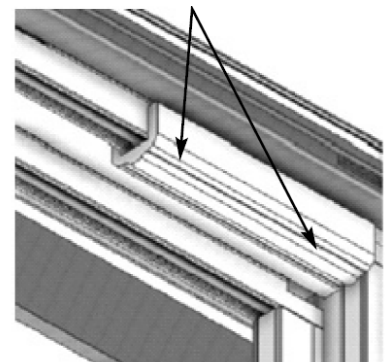

Figure 31
54. Install the panel bumper (Item 24) using two screws (Item 47) through the center of the bumper at 1/4" from each end (Figure 31).